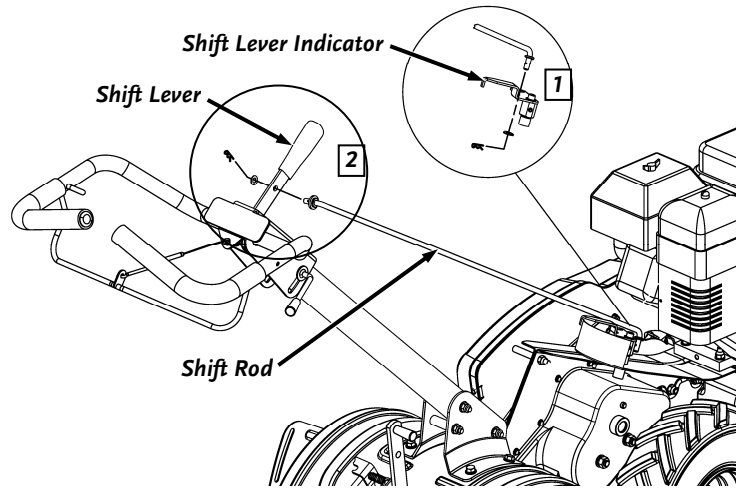

Figure 6
1. Insert lower end of shift rod into hole of shift lever indicator. Fasten with bridge clip and washer. (see Figure 6, Illustration 1)
2. Insert the upper end of shift rod into hole of shift lever. Fasten with bridge clip and washer. (see Figure 6, Illustration 2)